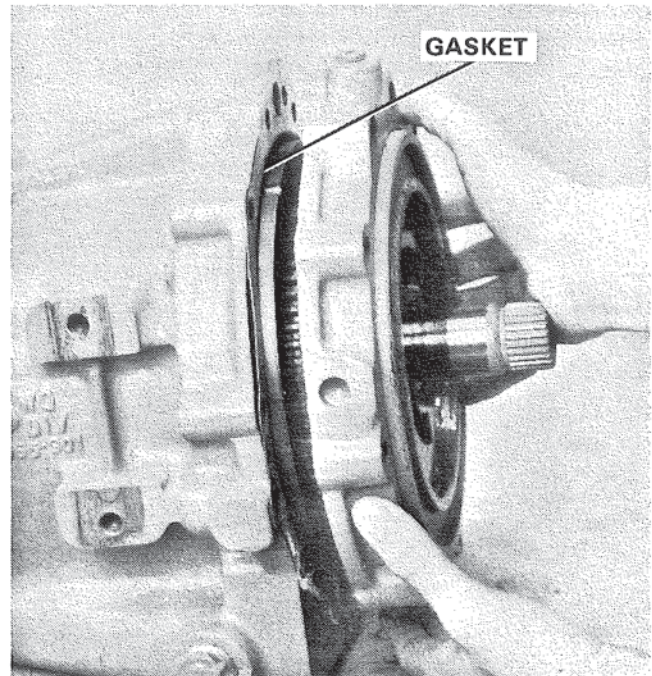

Figure 76. Installing Adapter and Reverse Clutch Assembly and Case.
1. With parts assembled resting on the rear face of coupling, coat the exposed front of the transmission case with petroleum jelly and assemble in place the case and adapter gasket. Figure 76.
2. Lift adapter assembly parts above transmission housing. Figure 76. Align the oil holes, then lower the reverse clutch piston and adapter assembly squarely into the input gear and transmission case.